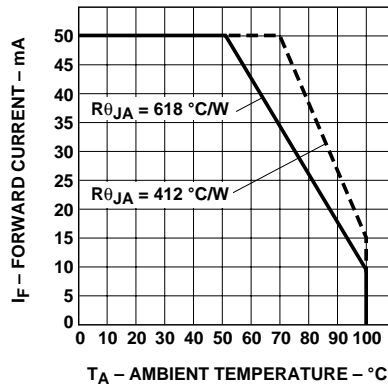

Figure 4. Maximum forward current vs. ambient temperature. Derating based on  $T_{Max} = 110^\circ\text{C}$ .
1. Derate linearly as shown in Figure 4.